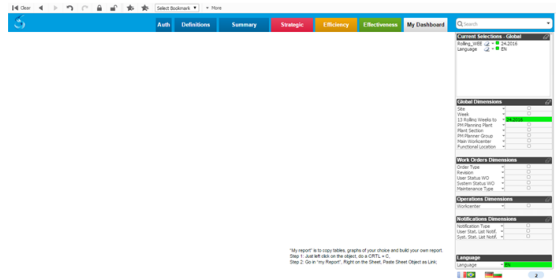

Figure 22 : "My dashboard"
5.4: “lock all selections” and “unlock all selections” buttons allows you to lock the selections you’ve made on your KPI options selections. When the selections are locked the color of the options becomes blue (see figure 22 on the next page).